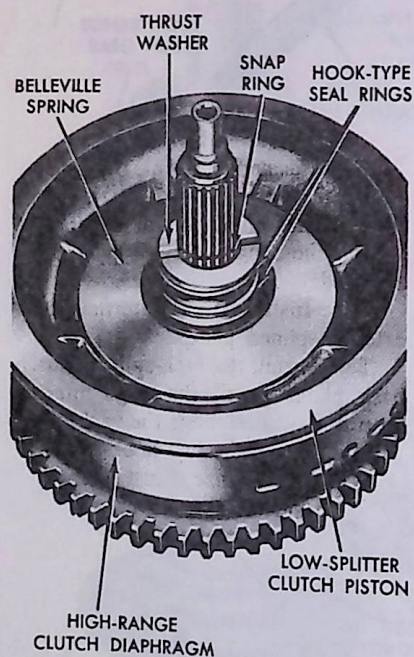

FIG. 53 Low Splitter Clutch Piston
11. Remove the thrust washer and the two hook-type seal rings from the diaphragm (Fig. 53).